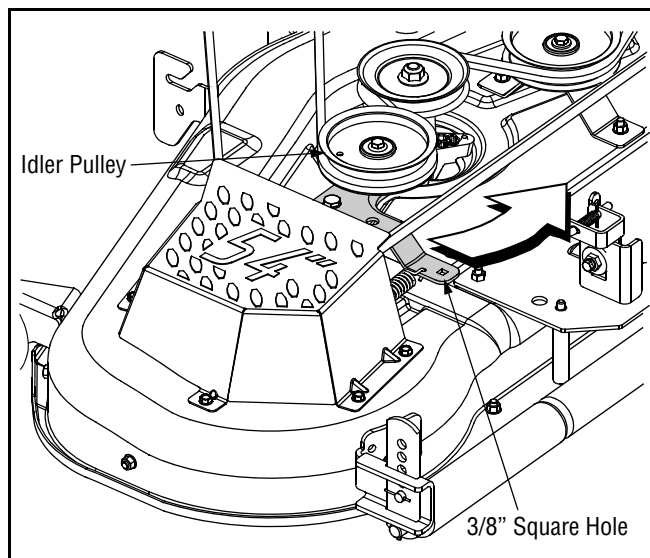

Figure 22
- Insert a 3/8"-drive ratchet wrench (set to *tighten*, Model GT2200 or set to *loosen*, Model GT2300) into the square hole found in the idler bracket on the left side of the deck's surface. See Figure 22 (Model GT2200) or Figure 22 (Model GT2300).